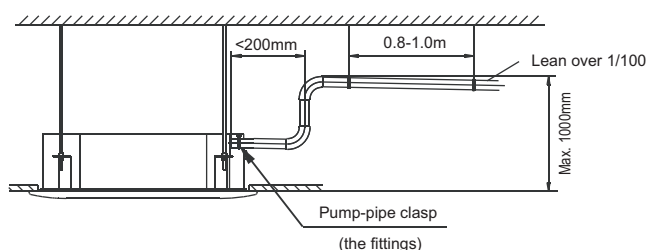

Fig.6-2
7) In case the drainpipe outlet is higher than pumping connective pipe of the main body, the drainpipe must be arranged upwards vertically by using connective assembly of the water outlet for vertical bending, and the height of the drainpipe shall set to the defrosting pan surface no more than 1000mm, otherwise, too much backflow while shutdown would leads to overflow (Refer to Fig.6-2).